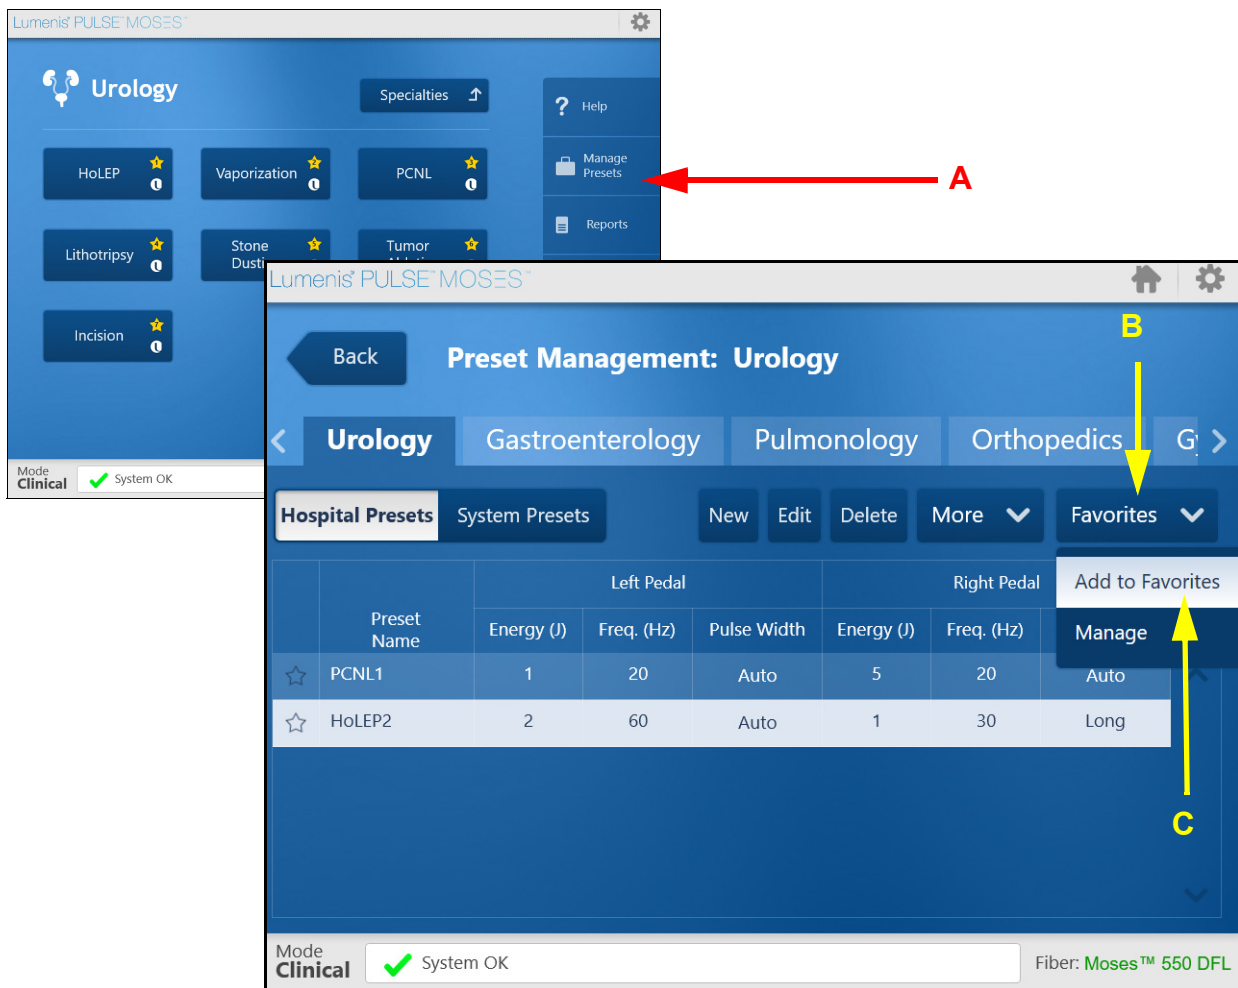

Figure 50: Preset Management - Add to Favorites (1)
1. From the **Home** screen, press **Manage Presets** (A, see Figure 50).
2. From the **Preset Management** screen, press the **Favorites** button (B) and select **Add to Favorites** (C) from the dropdown menu.